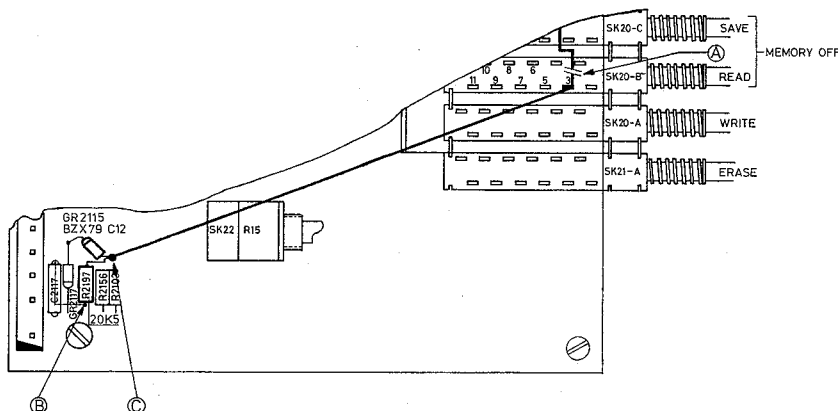

Fig. 1. Part of variable persistence and storage unit.
Moreover the 9,53 ohms resistors R533, R536, R538 and R539 (+6 V attenuator filtering) located on the intermediate amplifier unit have been changed to 20,5 ohms each; refer to Fig. 1.
2. Interrupt the track (on the track-side of the p.w.b.) between point 3 of SK20B (READ) and the anode of GR2117 as indicated in fig. 1 (A)
4. Solder one side of a resistor of 20k5 (5322 116 55255) on the point, which is connected with C2117 as indicated in fig. 1 (B) (on the component side of the p.w.b.)
5. Solder between the resistor of 20k5 and the anode of the zenerdiode GR2117 a zenerdiode (GR2115) BZX 79 C12 (4822 130 34197). The cathode of GR2115 to the anode of GR2117 (see fig. 1)
6. Mount an interconnection wire between the anode of GR2115 (fig. 1 (C)) and point 3 of the switch SK20B (READ)
This neon-tube can only be replaced by a temperature independent circuit (see fig. 1), to get a stabilised voltage drop between the cathode and g1 of the c.r.t.